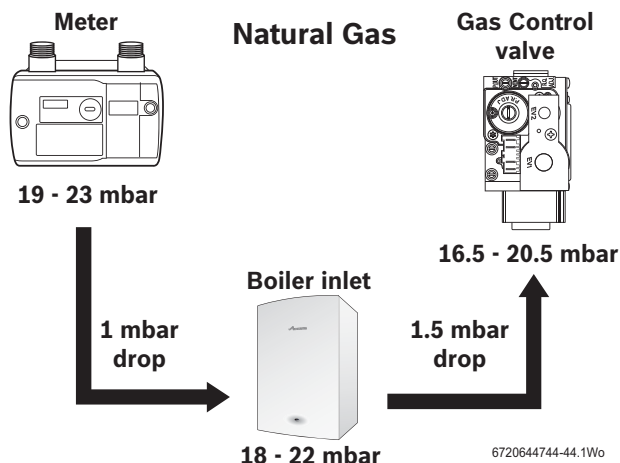
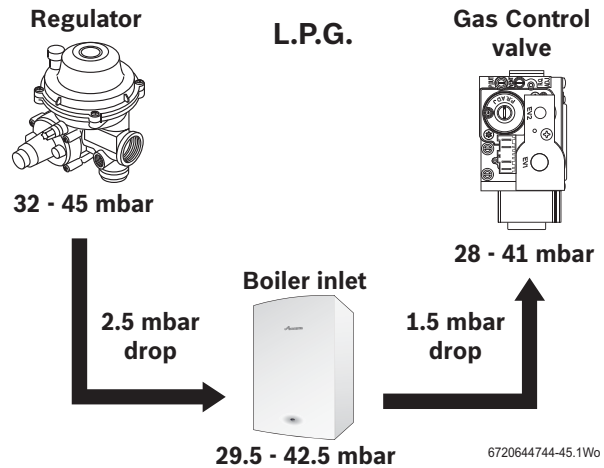

Fig. 64 Natural gas pressures
Fig. 65 L.P.G. pressures
- ▶ Check the gas supply working pressure at the gas valve conforms to values shown in Fig. 64 or Fig. 65 .